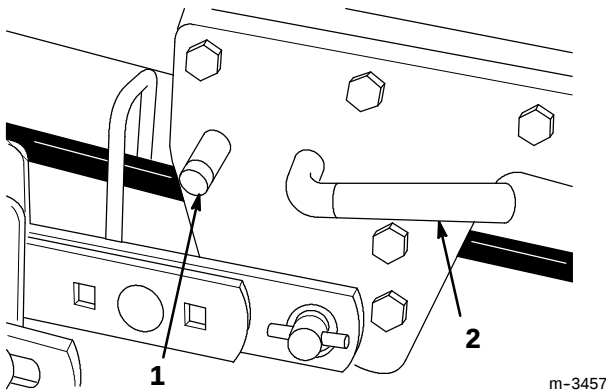

Figure 21
9. Press the button of the mid Attach-A-Matic **t** and twist the lever clockwise to release the mower (Fig. 21).